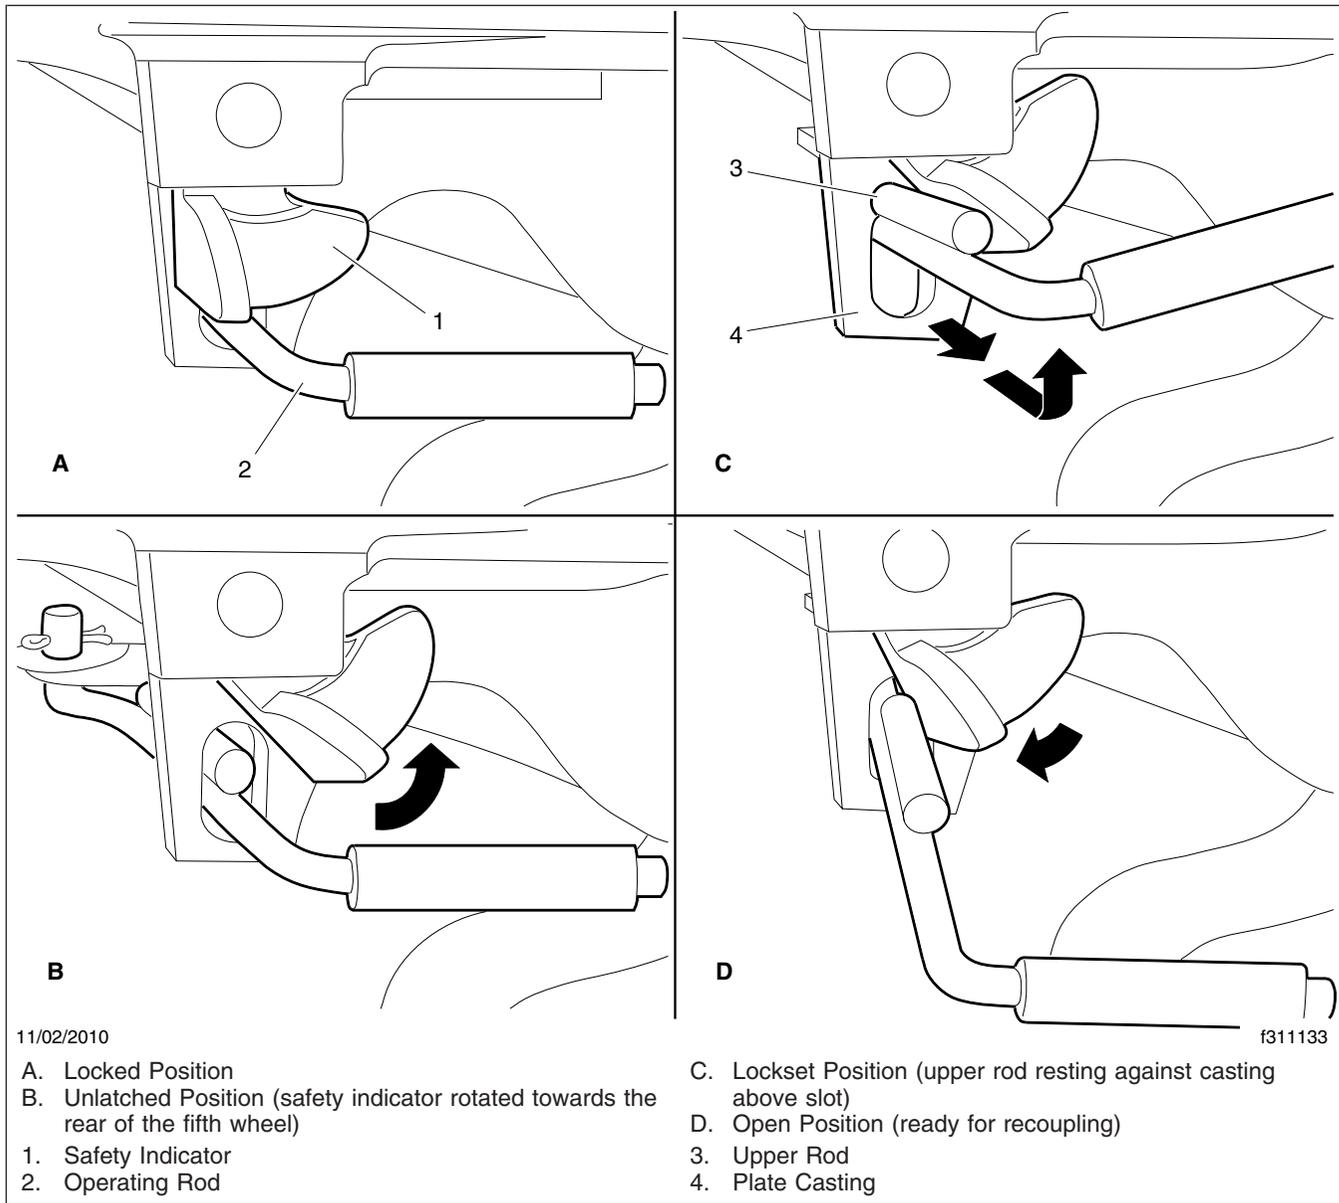

Fig. 20.8, Holland Kingpin Locking Mechanism
- 6.2 **Holland:** In the locked position the safety indicator swings freely over the operating rod. See Fig. 20.8, View A.
To unlock the mechanism, manually rotate the safety indicator toward the rear of the fifth wheel. See Fig. 20.8, View B.
Pull the operating rod out. When the upper operating rod shoulder is outside the slot, raise the handle and place the shoulder of the upper rod against the plate casting, above the slot. See Fig. 20.8, View C.
The fifth wheel is now in the lockset position and is ready for uncoupling. As the tractor pulls away from the trailer the kingpin forces the jaw to rotate, contacting the lock. Continued rotation of the jaw forces the lock to move outward, and drops the upper rod back into the slot. See Fig. 20.8 View D. The wheel is now ready for coupling.